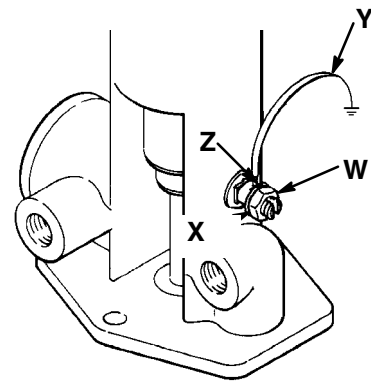

Fig 1
1. *Pump*: use a ground wire and clamp as shown in Fig 1.
To ground the pump, loosen the grounding lug locknut (W) and washer (X). Insert one end of a 1.5 mm2 (12 ga) minimum ground wire (Y) into the slot in lug (Z) and tighten the locknut securely. See Fig 1. Connect the other end of the wire to a true earth ground. See **ACCESSORIES** on page 17 to order a ground wire and clamp.